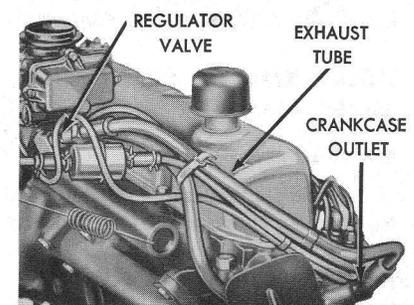

FIG. 27—Regulator Valve and Exhaust Tube
1. Remove the crankcase ventilation exhaust tube by disconnecting the exhaust tube from the crankcase ventilation outlet and from the regulator valve assembly (Fig. 27).